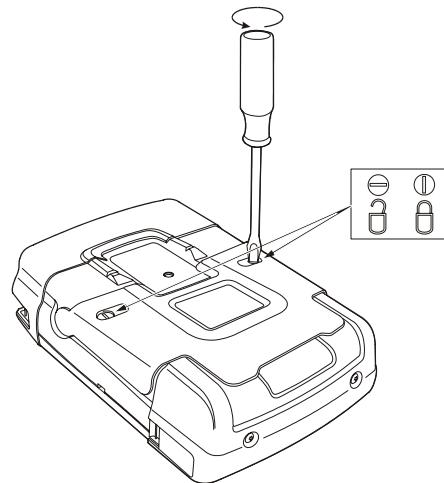

Figure 48. Unlocking the Battery Cover
3. Unlock the battery cover (Figure 48)